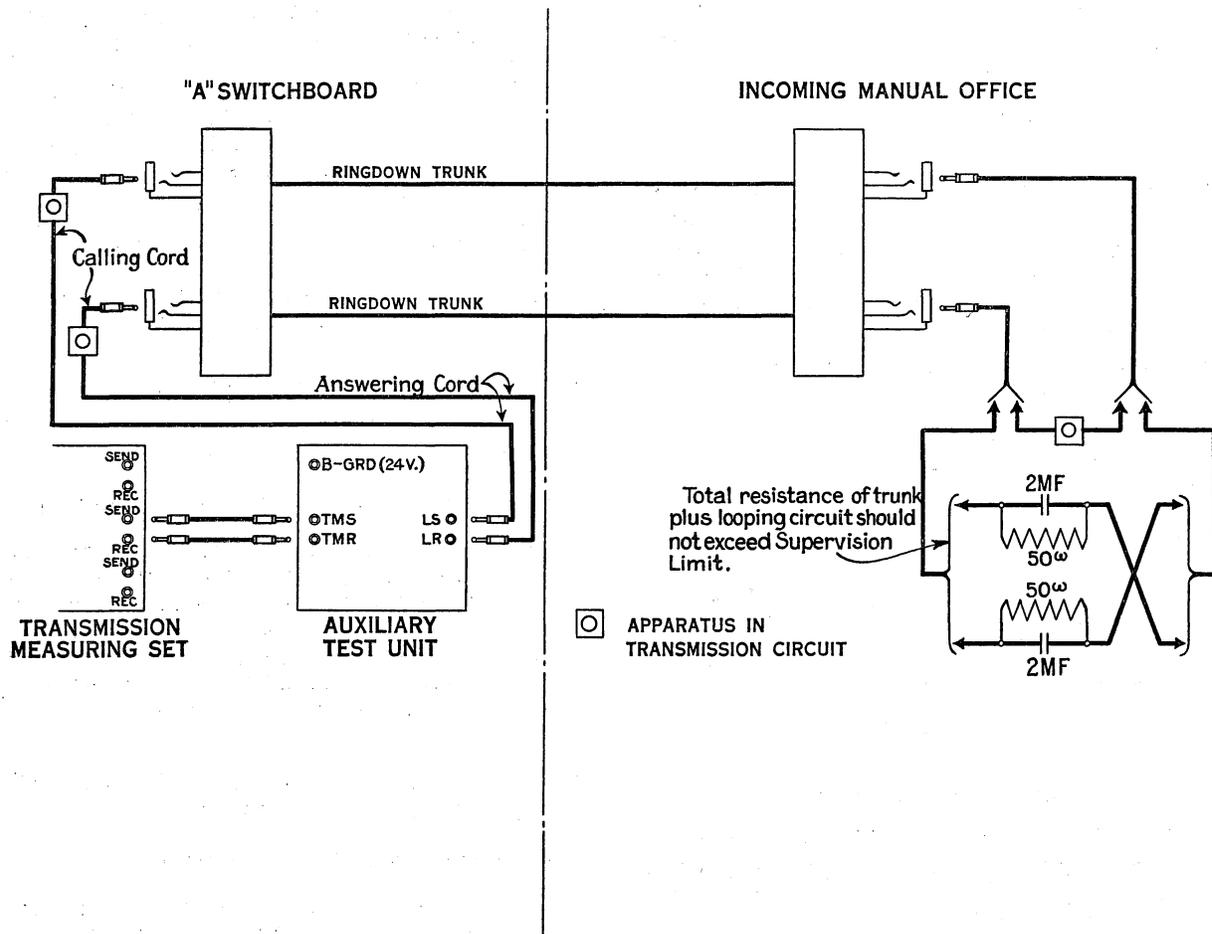

Figure 2
- 2.20 These circuits are tested at the "A" switchboard by the loop method and the loops are established at the manual office switchboard by means of one of the regular switchboard cord circuits or the looping circuit shown in figure 2.
- 2.22 Figure 2 shows schematically the connections for the test.